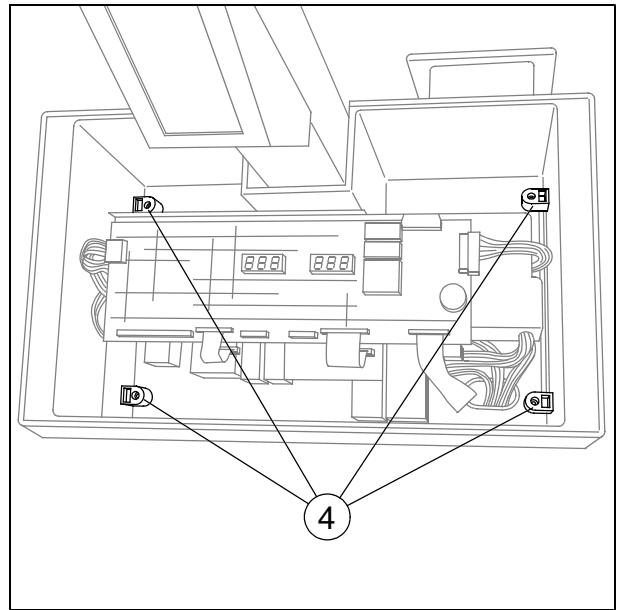

Fig. 5
- Remove the four screws of the top housing (4/Fig.5)